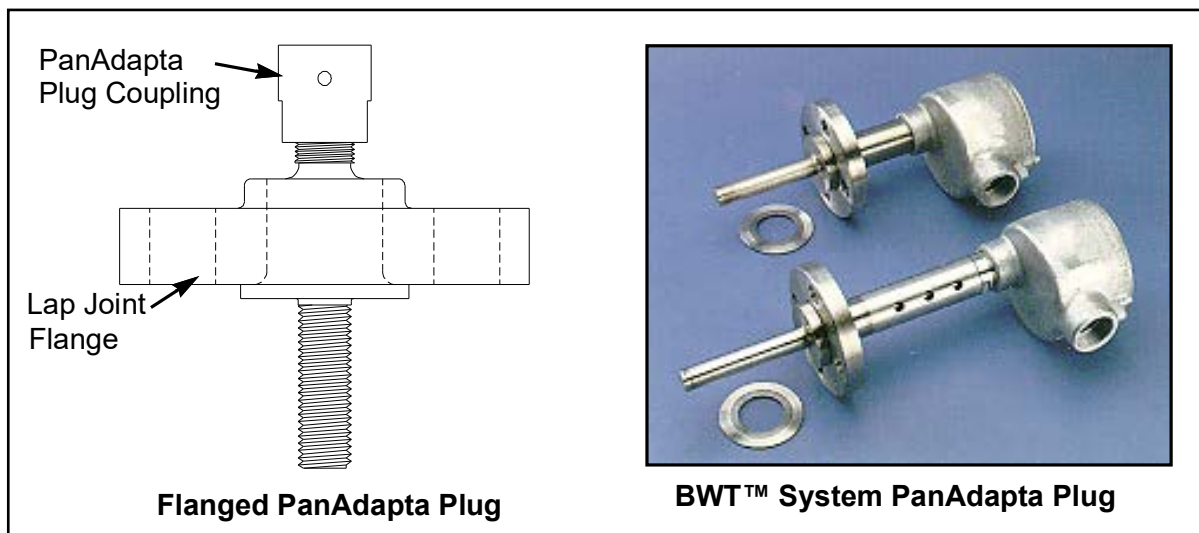
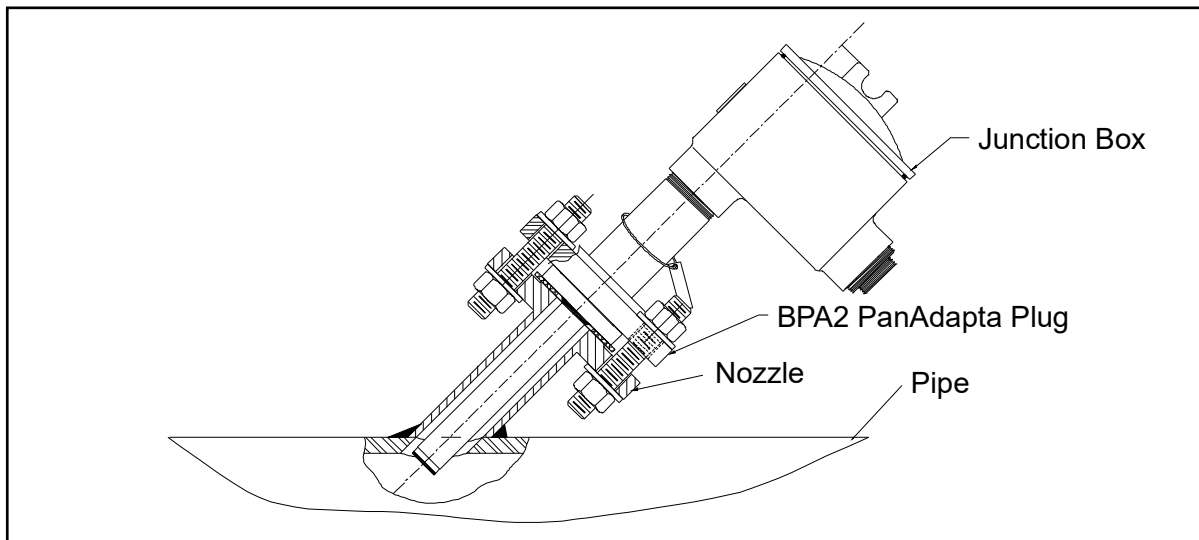

Figure 22: Types of Flanged PanAdapta Plugs
Figure 23: Flanged PanAdapta Plug in Flowcell Nozzle
2. Bolt the flanged PanAdapta plug to the nozzle (see *Figure 22* and *Figure 23* on the next page). Tighten the flange bolts using the appropriate torque for the installation.